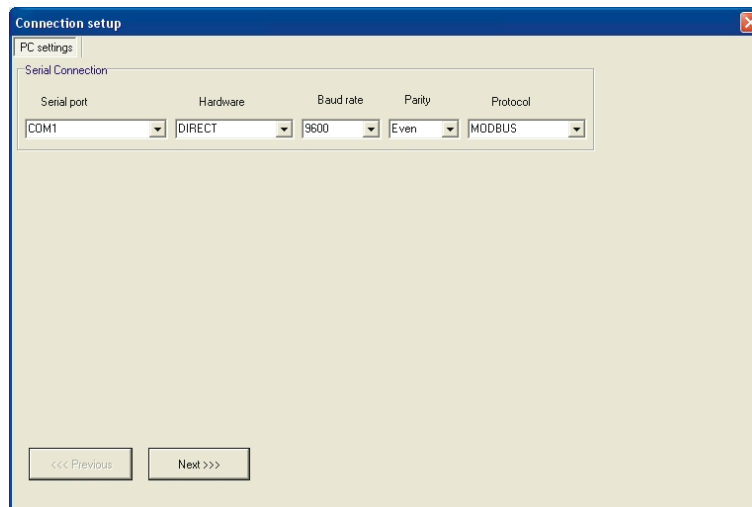

Fig. 9 - Connection setup dialogue window.
11. Select **Next >>>** (see Fig. 9).